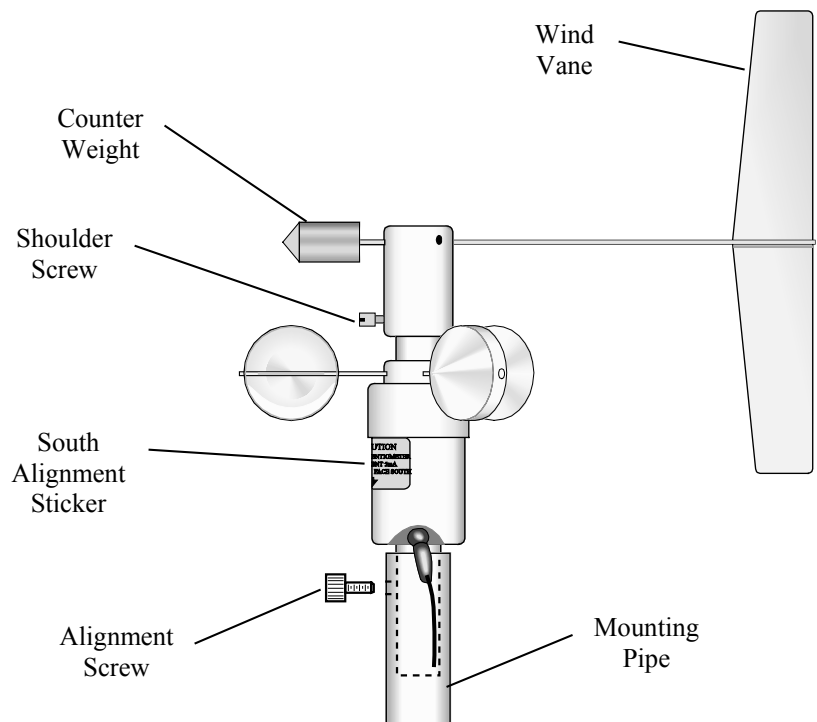

FIGURE 2-12. 034B Mounting to Pipe
2. Remove the alignment screw at the base of the 034B-ET (FIGURE 2-12). Insert the 034B into the 034B Mounting Shaft. Align the hole in the shaft with that in the 034B base and replace the screw. Do not overtighten the alignment screw. Do not remove the shoulder screw at this time.
4. See FIGURE 2-12 for the alignment sticker on the 034B. Align the arrow on this sticker with True South. The counterweight will also be pointing due south. Make sure the sensor cable is not being pinched by the U-bolt. Tighten up the U-bolt to hold the sensor firmly. Plug the cable into the mating connector on the sensor. Plug must be fully seated and locking ring turned fully clockwise.